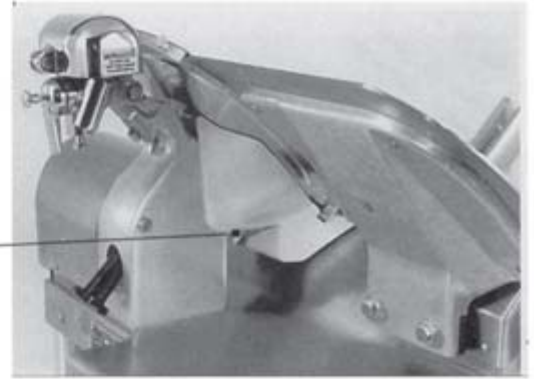

Figure 14-1
6. **SLICE DEFLECTOR:** The slice deflector (#1) is mounted on a retaining guide pin. To remove the slice deflector, pull completely forward and remove deflector (Fig. 14-1)